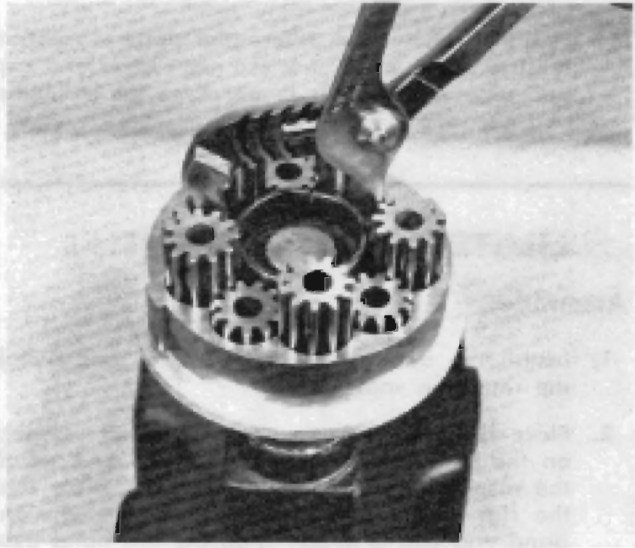

FIGURE 7
4. Align the roll pins with their respective holes and seat one of the bodies in place on the end cap. Refer to Figure 7.
5. Install the ten (10) differential pinions in their respective bores. Refer to Figure 7.
6. Hold the cylindrical spring with suitable pliers, as shown in Figure 7 and compress the spring, inserting it in the center of the pinions, seating it down against the axle gear.